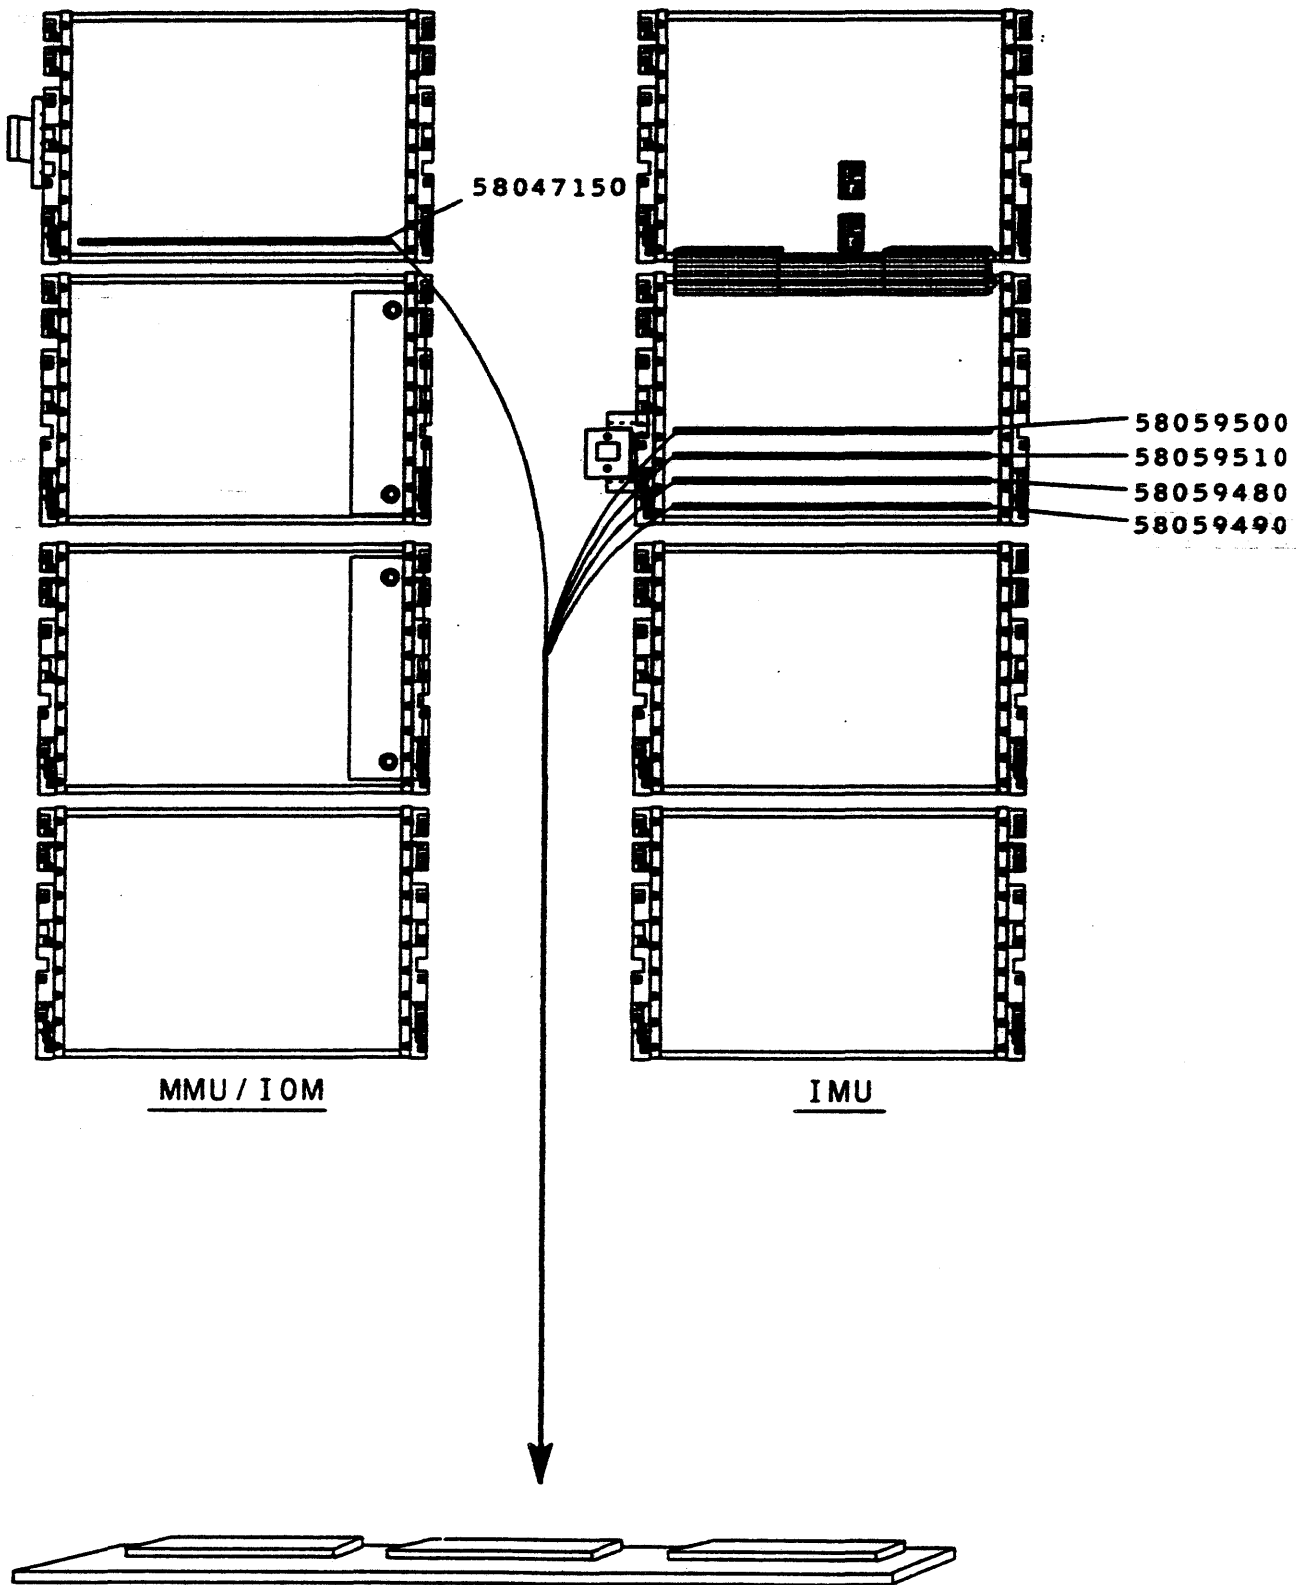

FIGURE 2.6-1. PWA (TERMINATION) BOARD REMOVAL/INSTALLATION
5. Locate faulty PWA at rear of cabinet and, using hands, grip PWA at both corners and pull straight out to remove (Figure 2.6-1, [1]).